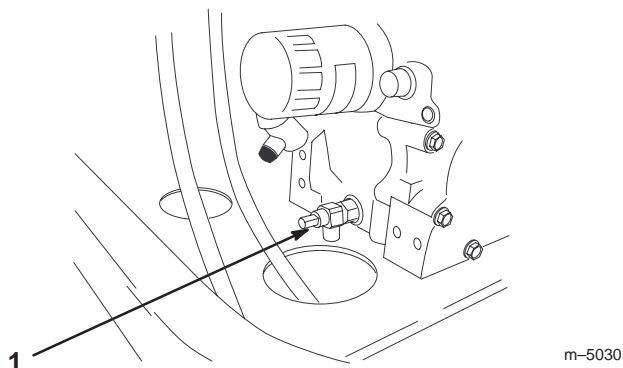

Figure 42
3. Place a pan below the oil drain. Rotate the oil drain valve to allow oil to drain (Fig. 42).